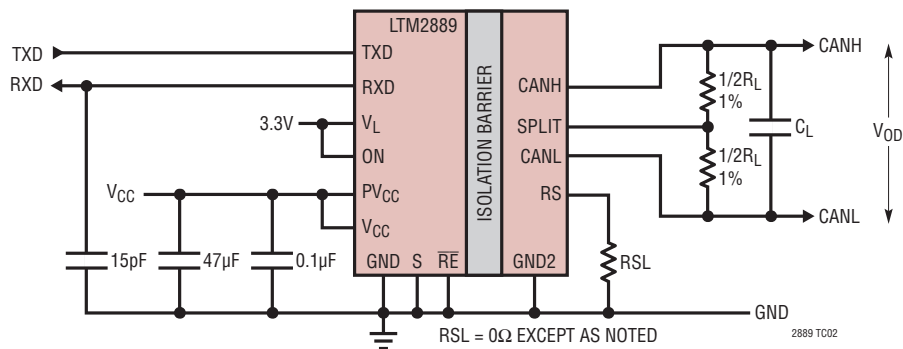

Figure 2. All Bus Pin Switching Characteristic Measurements Except Receiver Enable/Disable Times
**SWITCHING CHARACTERISTICS** The ● denotes specifications which apply over the full operating temperature range, otherwise specifications are at  $T_A = 25^\circ\text{C}$ . Unless otherwise noted, the following conditions apply:  $PV_{CC} = V_{CC} = 3.3\text{V}$  for the LTM2883-3,  $PV_{CC} = V_{CC} = 5\text{V}$  for the LTM2883-5,  $V_L = 3.3\text{V}$ ,  $GND = GND2 = S = RE = RS = 0\text{V}$ ,  $ON = V_L$ . Figure 2 applies with  $R_L = 60\Omega$ ,  $C_L = 100\text{pF}$ ,  $R_{SL} = 0\Omega$ . Figure 10 applies for  $V_{CC2} = 3.3\text{V}$ ; otherwise ADJ is floating.